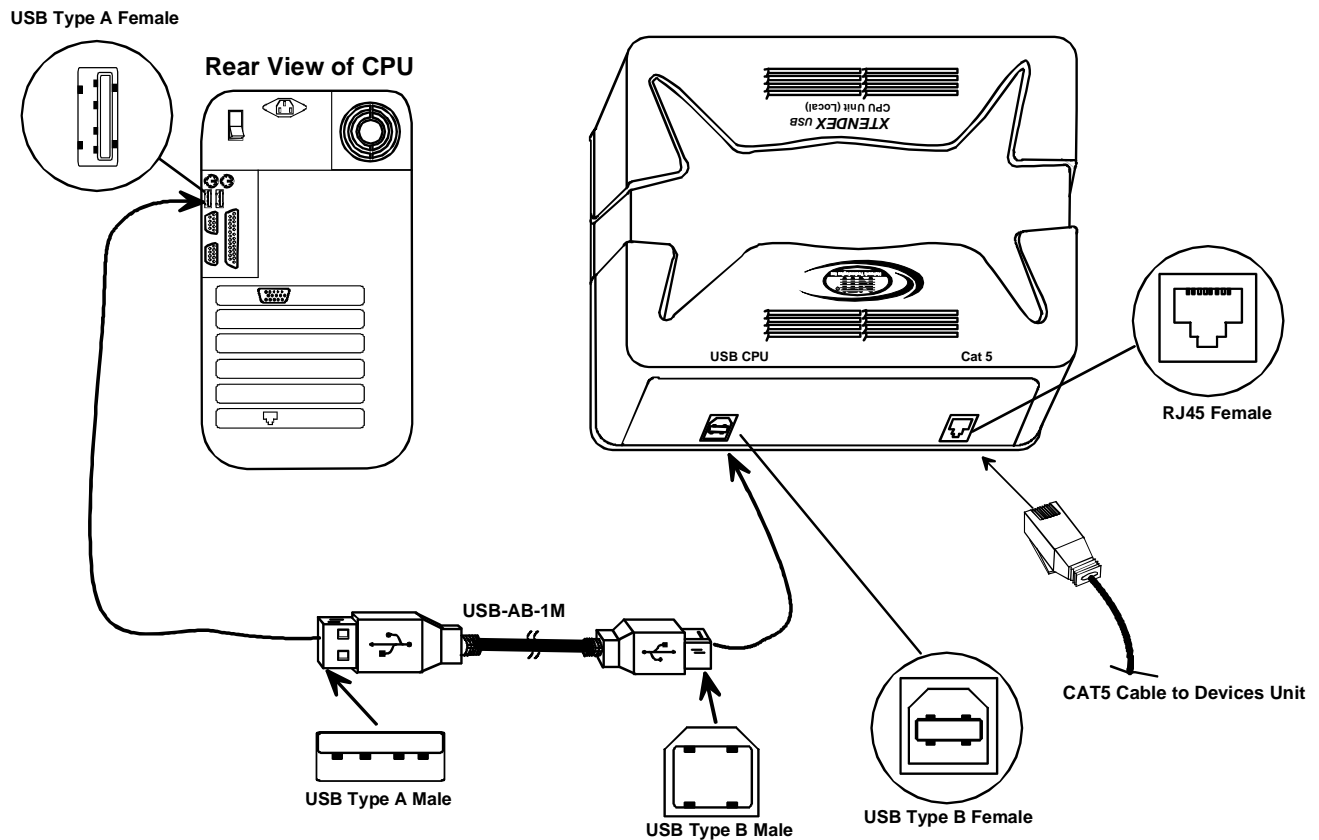

Figure 1- Connect the CAT5 USB Extender to a CPU
2. Connect the USB type B male end of the USB-AB-1M cable to the USB type B female port on the CPU Unit (Local). (See Fig.1.)
3. Connect the USB type A male end of the USB-AB-1M cable to a USB type A port on the CPU. (See Fig.1.)
4. Connect the CAT5 cable to the "CAT5" port on the CPU Unit (Local). (If an RJ45 wall outlet is being used, connect the other end of the extension cable to it.) When properly inserted the cable end should snap into place. (See Fig. 1.)